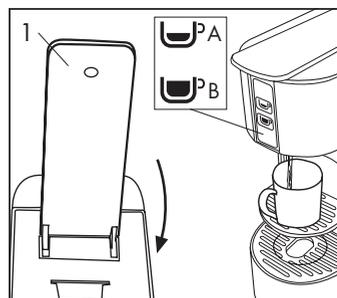

Fig. 11
Close the lever (1) completely and press one of the dispensing buttons: short (A), big (B) according to your taste **(Fig. 11)**